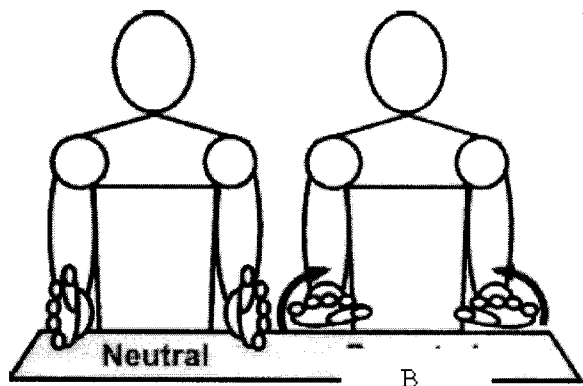

Figure 7: movement of forearm
2.4. What is movement of forearm as shown in figure 7(B)? (2 points)